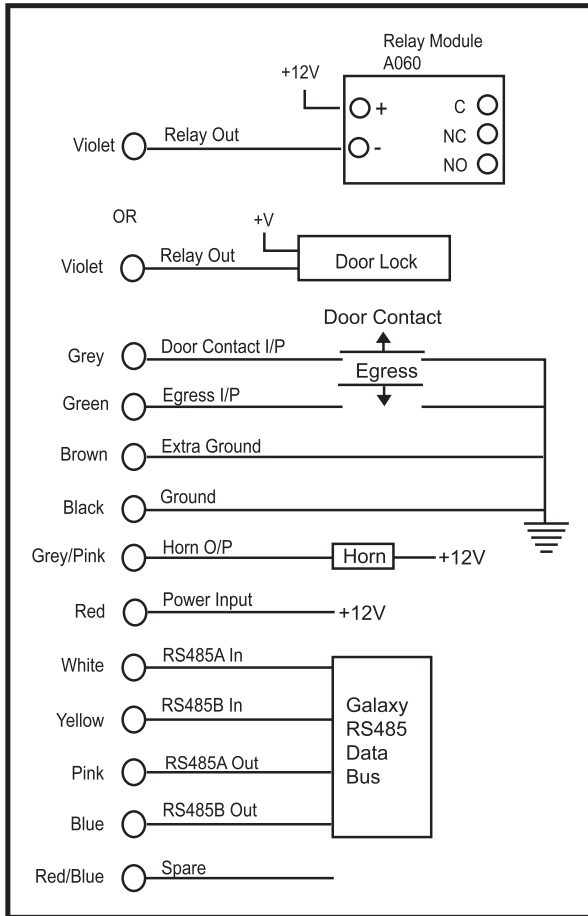

Figure 5-1. Online Connection diagram
Access engineer mode. Wire the MAX³ as per the instructions given in **Figures 5-1 or 5-2**
1. Connect power to the MAX³ as per Figure 5-1.